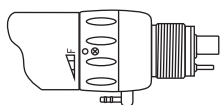

Fig. 3
- (1) Forward Rotation : Turn the FWD/REV Change Ring to "F" as shown in Fig.3.